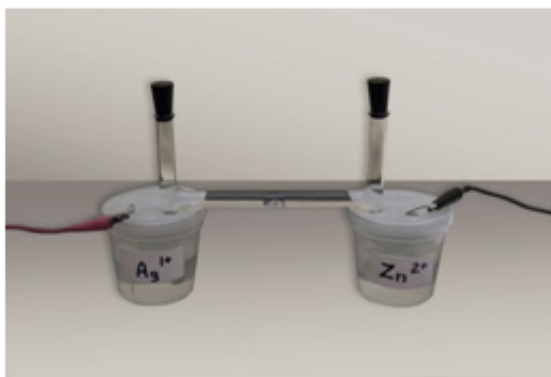

Figure 2: Electrochemical Cell Setup
- 9 Immerse the salt bridge in the Zn^{2+} and Ag^+ solutions, one leg in each, as shown in Figure 2.
- 18 Immerse the salt bridge in the Zn^{2+} and Pb^{2+} solutions, one leg in each, as shown in Figure 2.